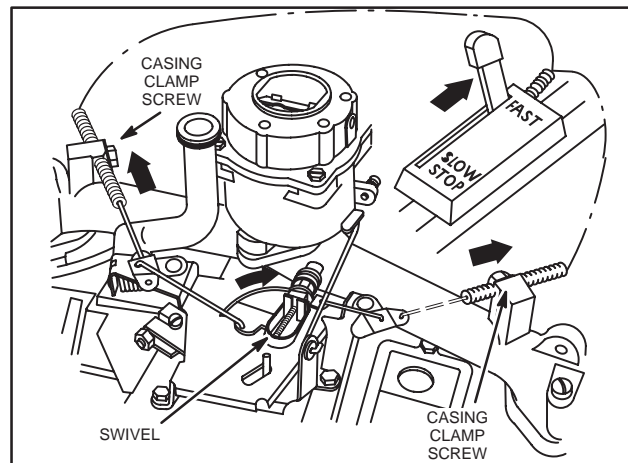

Fig. 5 – Remote Control – Twin II Horizontal Crankshaft (Type Nos. 1100 & Above)
1. Loosen control casing clamp at governor control bracket, Fig. 5.